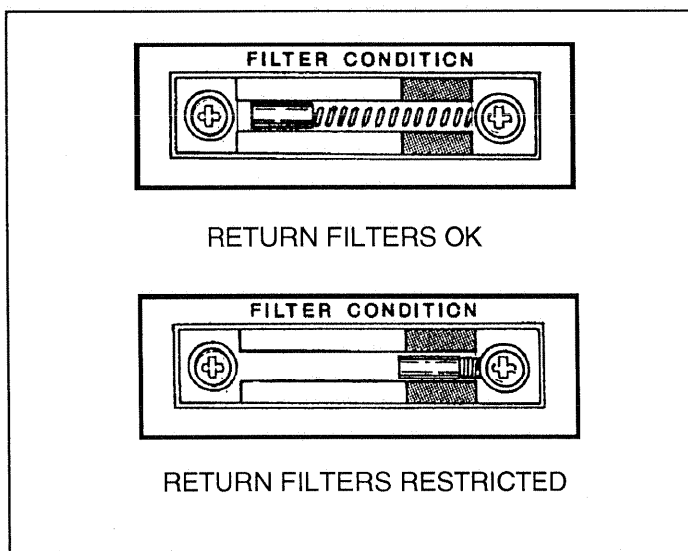

Fig. 3-11 Hydraulic Return Filter Indicator
**NOTES:** When the white indicator moves into the red area, the Hydraulic Return Filter should be serviced. See Fig. 3-11.